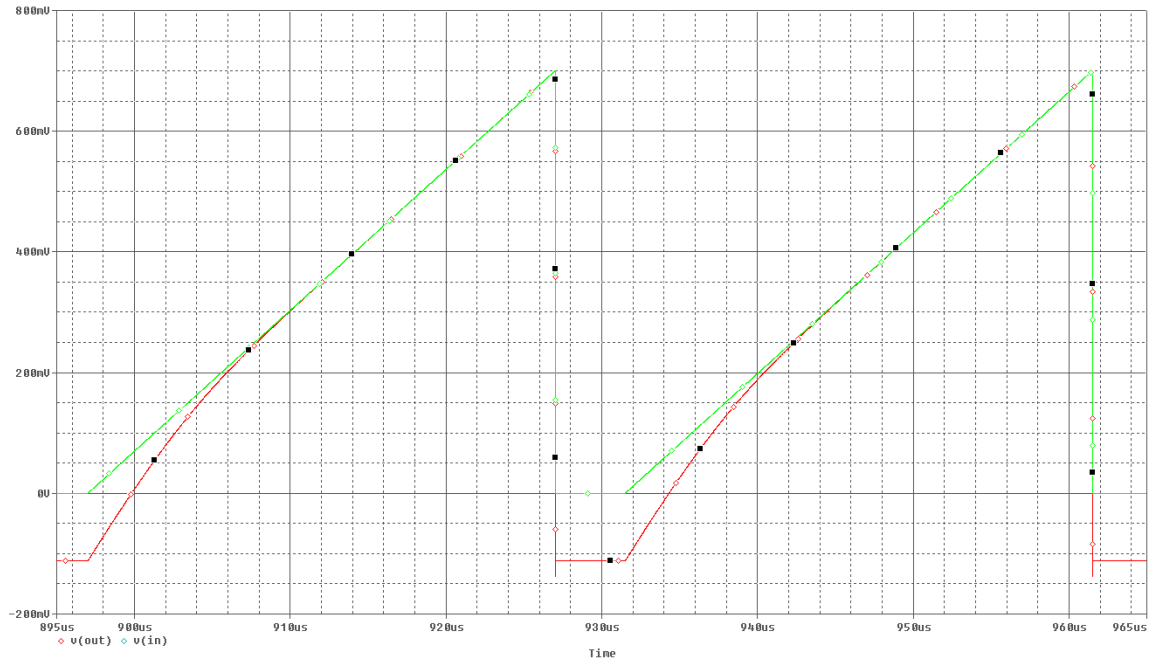

Figure 1 RTC2200 gamma settings
- When shipped the gamma correction is adjusted to off. To increase low level gamma, rotate the 25-turn potmeter on the back labeled BLK LVL clockwise. Figure 1 below shows the response of the minimum and maximum gamma setting. As can be seen, the amplitude of the video signal increases from 700mVpp at minimum gamma setting to about 800mVpp at maximum gamma setting. After dialing in the gamma the contrast setting of the display may have to be adjusted to compensate for this.